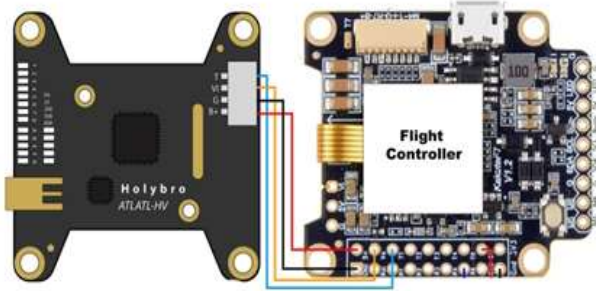
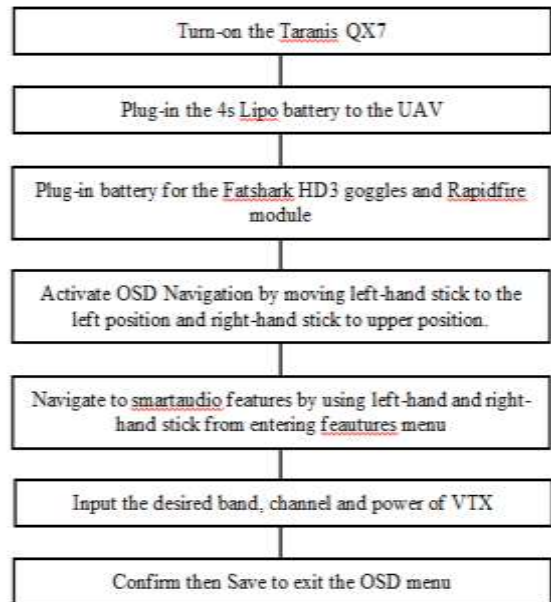

Figure 1. Wiring Diagram of Portable 5.8ghz FPV System with Smartaudio
Figure 3. Smartaudio navigation flowchart
Figure 1 shows the simplistic diagram to help explain the system wiring. The key for a VTX telemetry control is that an extra wire is connected to a spare UART TX port on the flight controller. This UART port is what sends the information to the VTX to change the settings.
**Equipment:** For an FPV setup, all you need is a video transmitter, micro camera and goggles or FPV monitor for a receiver. Camera and video transmitter is already explained and shown in Figures 1 and 2. For the goggles and receiver, Fatshark HD3 and Immersion RC Rapidfire modules were used for testing. The Rapidfire module has features that will be used for testing to detect the 5.8ghz signal and match it from the channel the VTX is transmitting. A combination of Right Hand Circular Polarized patch and clover leaf antennas is also used in this setup. The Taranis QX7 is used as remote controller for both the UAV and On Screen Display navigation during testing the functionality of the System. Figure 3 shows the process of accessing and navigating the OSD menu to change the desired channel and power output of the 5.8ghz FPV system.